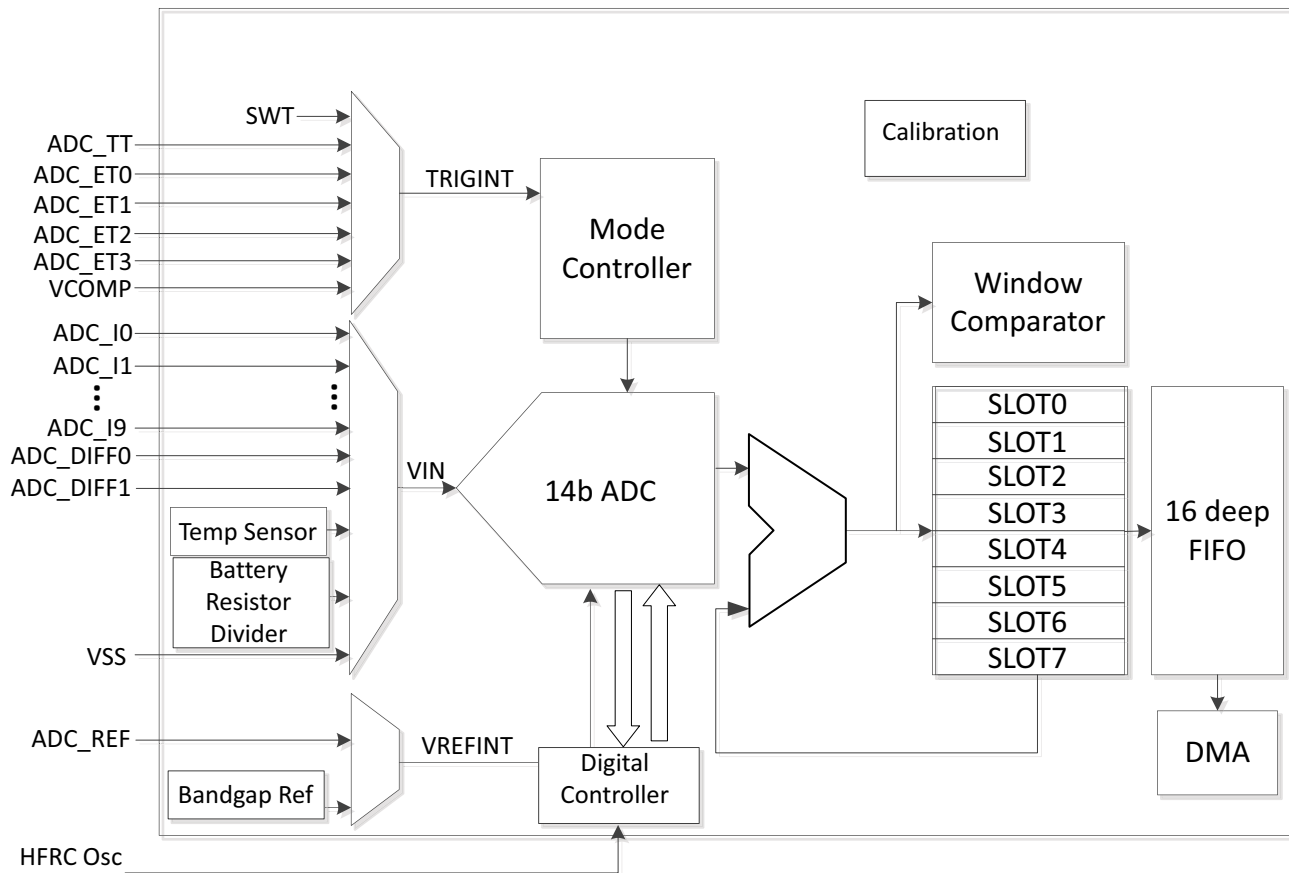

Figure 91. Block Diagram for ADC and Temperature Sensor
The Analog-to-Digital Converter (ADC) and Temperature Sensor Module includes a single-ended 14 bit multi-channel Successive Approximation Register (SAR) ADC as shown in Figure 91.
As shown in Figure 91, the ADC block contains a channel analog multiplexer on the input port to the analog to digital converter. Twelve (12) of the GPIO pins on the Apollo3 Blue Plus SoC can be selected as analog inputs to the ADC through a combination of settings in the PAD configuration registers in the GPIO block and settings in the configuration registers described below.